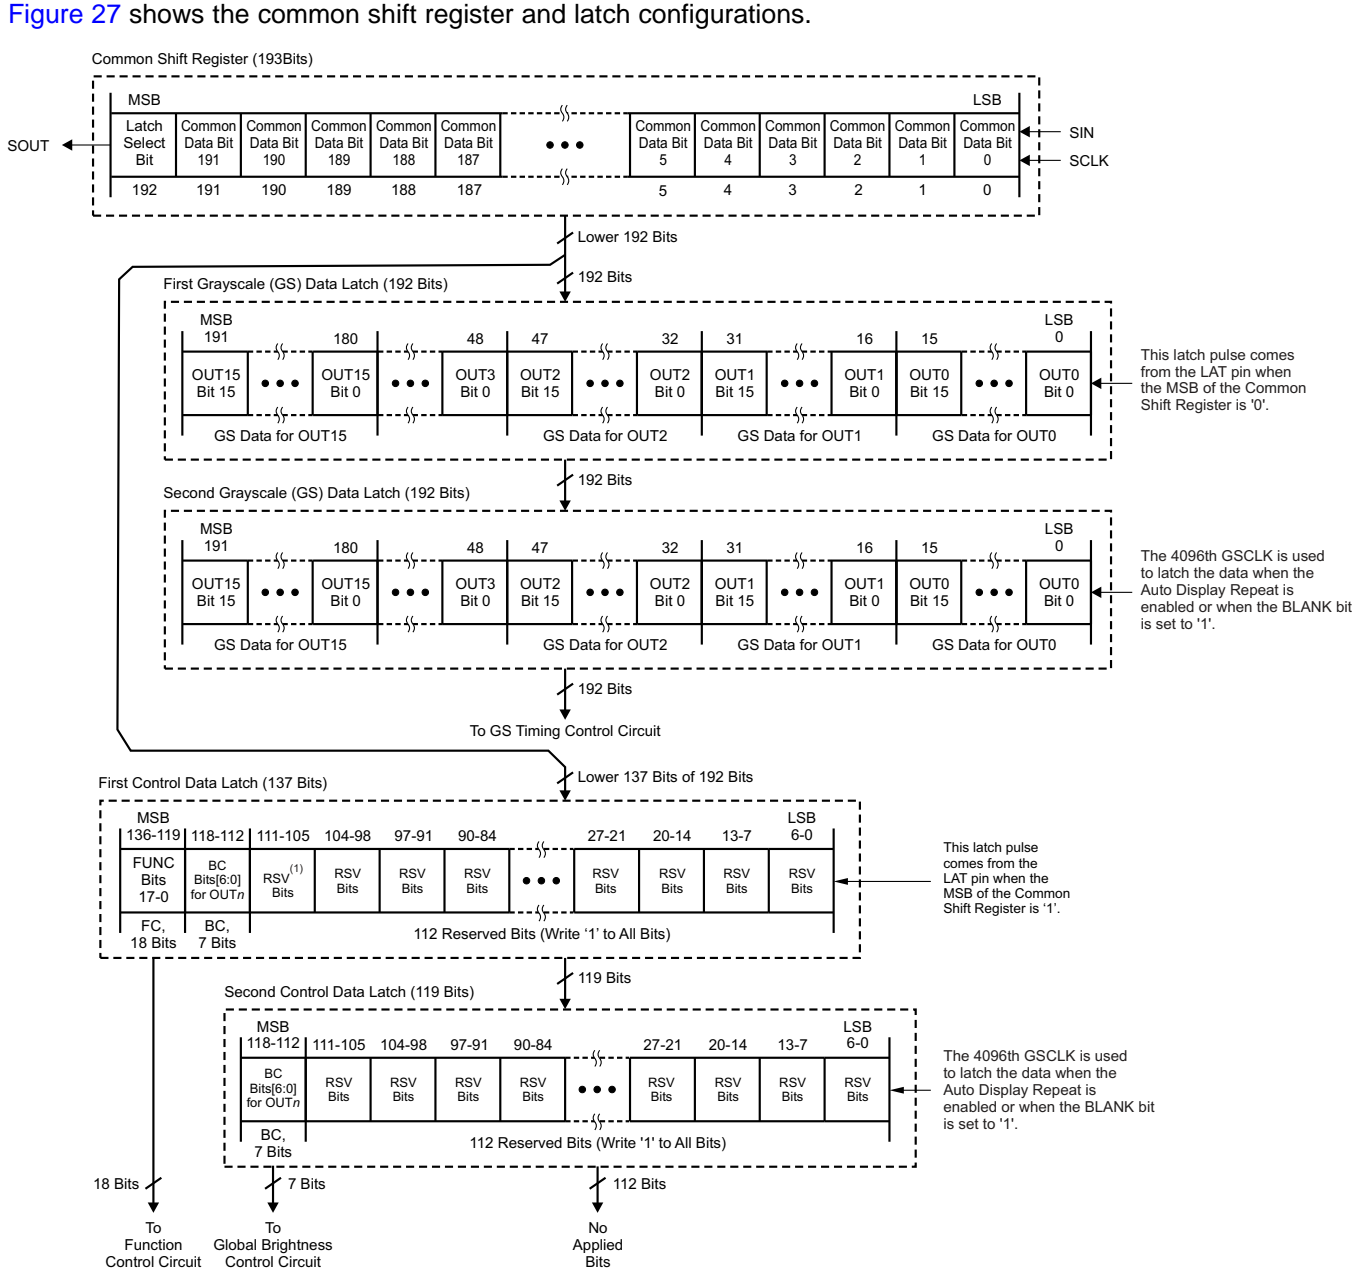

Figure 27. Common Shift Register and Control Data Latches Configuration
The TLC5949 has one common shift register and two pairs of data latches: the first and second grayscale (GS) data latches and the first and second control data latches. The common shift register is 193 bits long and the GS data latches are 192 bits long in total. The first control data latch is 137 bits long and the second latch is 119 bits long. When the common shift register MSB is '0', the least significant 256 bits from the common shift register are latched into the first GS data latch. When the MSB is '1', the data are latched into the first control data latch. Figure 27 shows the common shift register and latch configurations.